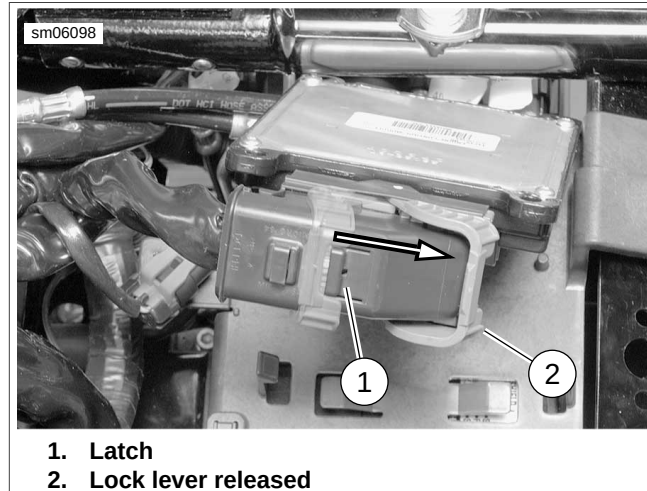

Figure A-22. Unlatch ECM Connector
See Figure A-22. Remove strap. While pressing latch (1), rotate lock lever to the released position (2).